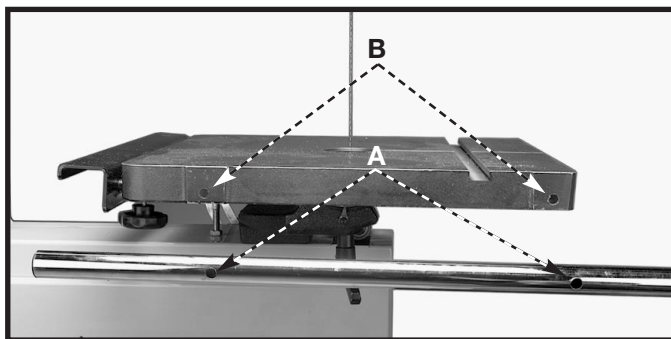

Fig. 9
1. Align the two holes (A) Fig. 9 in the front fence rail with the two holes (B) in the front of the table.
2. Insert a 1/4-20 x 1-1/2" socket-head cap screw through one of the holes (A) Fig. 9 hole in the front fence rail. Place a spacer on the screw between the front fence rail and the table. Thread the screw into the front of the table. Repeat for the other hole (A) in the front fence rail. Tighten the two screws securely.